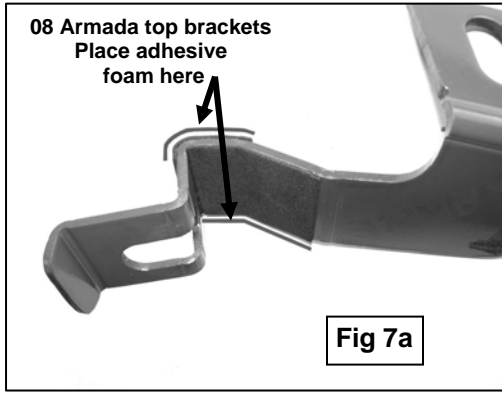

Fig 7a
- Apply foam strips to the bottom and top surface of the Top Support Bracket to protect the finish of the bumper and grille shell, a must on the **08 Armada**, **(Figure 7a)**.